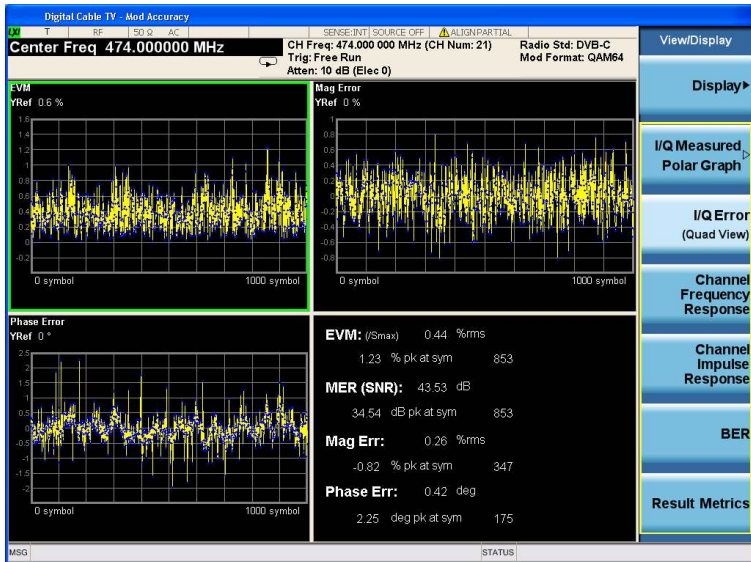

Figure 9.
View the IQ error results (Figure 9)	[View/Display] {IQ Error} To view the MER vs. symbol results in the top left window, press [AMPTD Y Scale] , {More 1 of 2} and toggle the {Scale Type} to MER .
- I/Q error view (Figure 9): A view of computed error vector between corresponding symbol points in the I/Q measured and I/Q reference signals